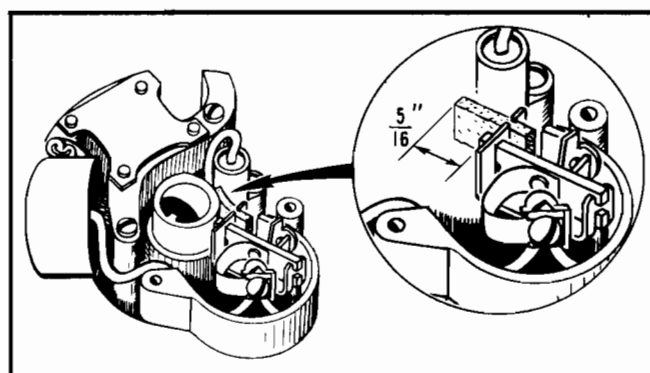

Figure No. 20—Correct Position of Cam Wick
3. Lubricate the cam follower lubrication felt whenever the magneto is serviced or cleaned. Always clean the felt by washing it in clean gasoline before saturating it with lubri-plate grease (or a bearing grease) and position it in accordance with Figure No. 20.
1. The only lubrication needed in the magneto is in the cam wick. (See Figure No. 20.) This is saturated with grease at the factory. If it becomes dry the felt may be removed and new grease worked into it. Avoid using oil in the magneto.